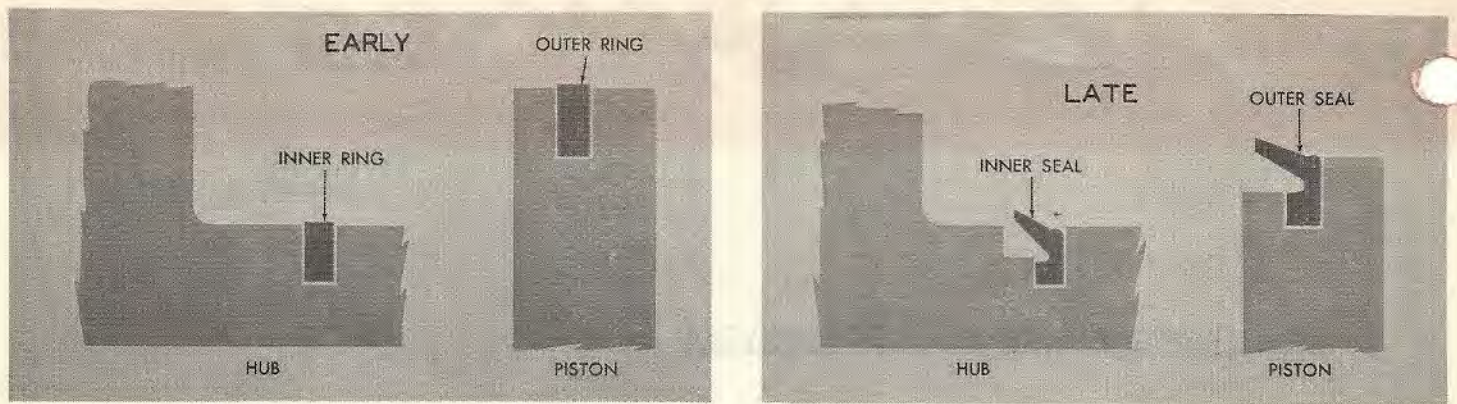
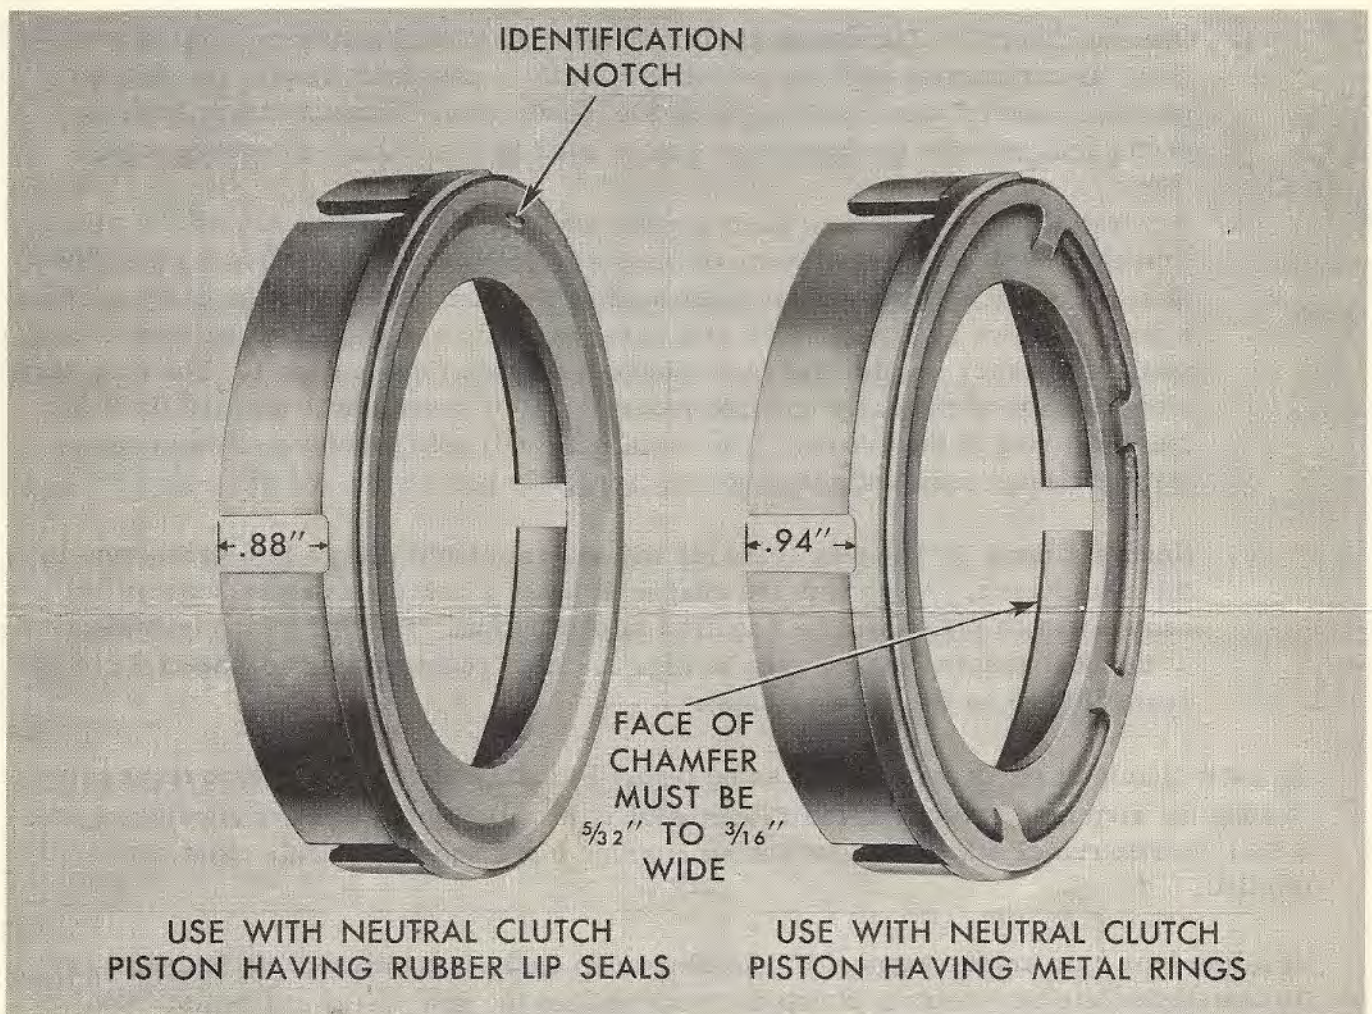

FIG. 1 EARLY AND LATE TYPE HUB AND PISTON
FIG. 2 EARLY AND LATE NEUTRAL CLUTCH DRUM
- a. Overrun Clutch -- The new seals for the overrun clutch piston are now in production. In conjunction with the use of new seals, a new front pump assembly and overrun clutch piston assembly went into production. The difference in design of the seal grooves in these parts can be seen in Fig. 1 on the reverse side.
- b. Reverse Clutch -- The new seals for the reverse clutch piston are now in production along with a new rear pump (to accommodate the inner seal) and a new clutch piston (to accommodate the outer seal). The seal grooves in the early and late hubs are shown in Fig. 1. The ring grooves in the early and late reverse clutch pistons are very similar and both look like the late type in Fig. 1. The only sure identification of the early and late reverse clutch pistons is to test the fit of the metal oil ring in the groove. The metal ring will not fit in the groove designed for the rubber seal since this groove is slightly narrower.
- c. Neutral Clutch -- The new seals for the neutral clutch will go into production in the near future. Along with the change in seals a new case center support and neutral clutch piston will be required in production. The difference in design of the seal grooves can be seen in Fig. 1. Also required is a new neutral clutch drum (Fig. 2 on the reverse side).